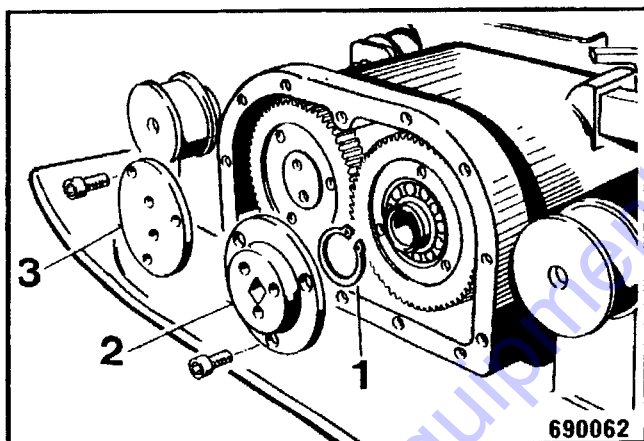

Fig. 4
- Remove the tappet 2 (Fig. 4) and the cover plate (3).
- Remove the circlip (1).